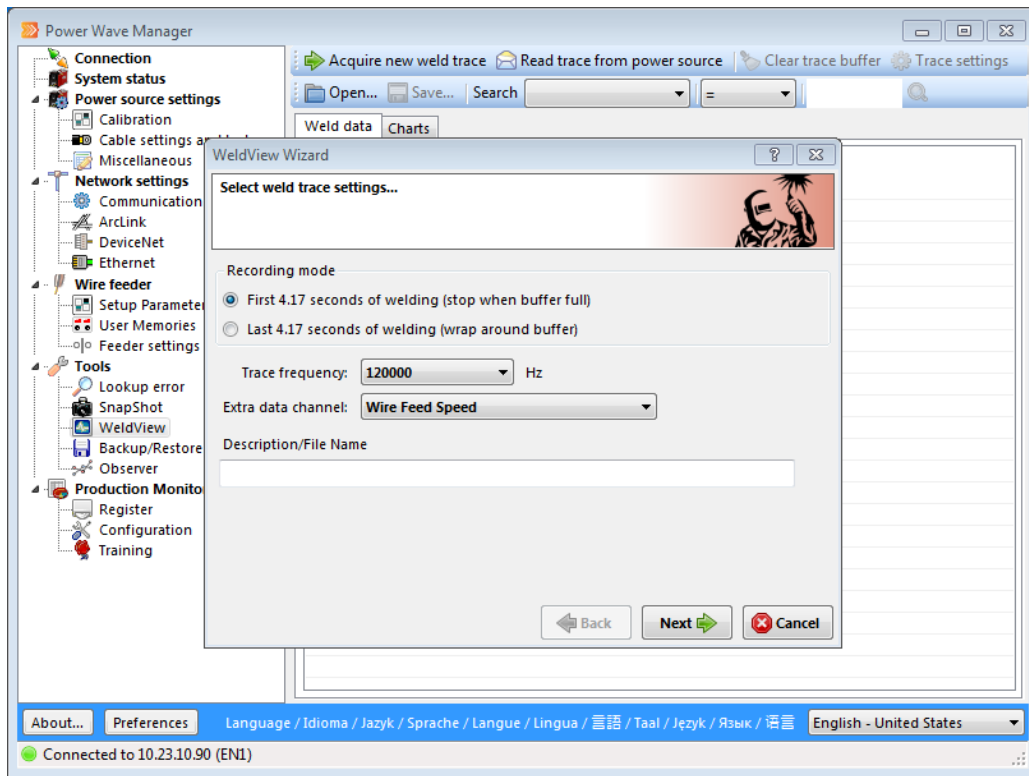

Figure 10.4 WeldView Wizard
2. Click the Acquire new weld trace button on the top toolbar.	The WeldView Wizard window opens to the trace settings step (Figure 10.4).